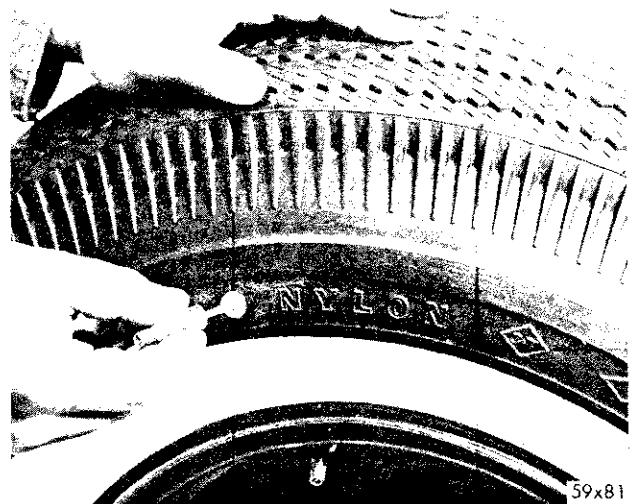

Fig. 15—Inserting Inflating Needle in Side Wall Valve
(2) Lubricate inflation needle and insert into side-wall valve (Fig. 15).
(3) Inflate outer chamber through sidewall valve to 28 pounds pressure.
(4) When correctly inflated, inner chamber will be 2 to 4 lbs. more than outer chamber. (If pressure difference cannot be obtained, indications are of a leak between inner and outer chamber at shield.)
(5) Remove needle and put it in its case. Tires should be inspected periodically and any foreign material removed. The safety shield will cause most nails to either bend over, break off or be thrown out. If a puncturing object is removed, the safety shield should be tested for leakage. If leaking, it should be inspected for damage. The shield may be tested by inflating the inner compartment to a higher pressure (never over 40 pounds) than the outer compartment. If the pressure in the inner compartment remains constant, the shield is undamaged.